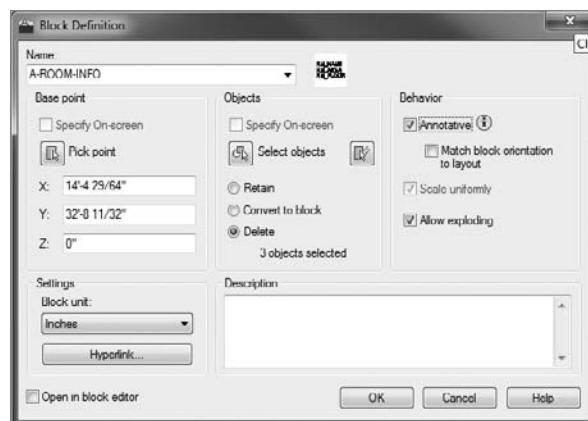

FIGURE 9.19 The Block Definition dialog box for the A-ROOM-IDEN block
6. After being sure Delete is still selected, check the Annotative check box to enable it, making the A-ROOM-INFO block Annotative. Assuming the Block Definition dialog box looks like Figure 9.19; click OK to dismiss the dialog box.